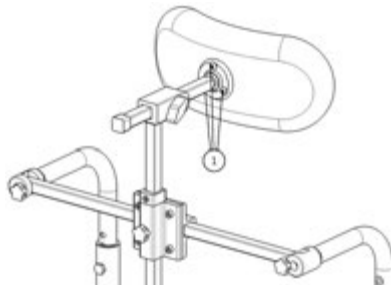

Fig. 42
- Install headrest on the ball pivot and tighten the three screws (1) (Fig. 42).